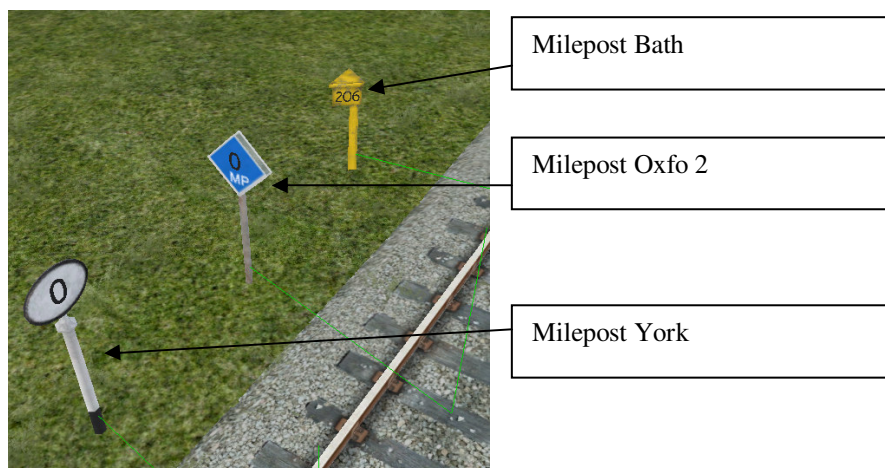

Figure 23 UK Route Designs of Mile Post
- 1) In Object Selection, Signals select the required design of mile post. (Fig.23 & 24)